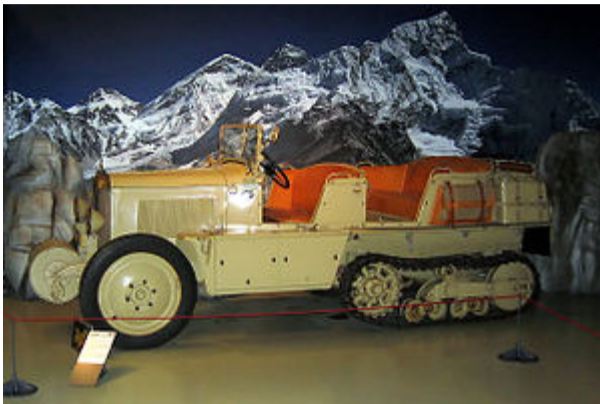

Fig. 8: Citroen Half-track from the 1930's
The turning axle should probably use wheels, making this a WHEELED ROBOT (5). However, for the power axle you can use either wheels or TANK TREADS (7). If you use TANK TREADS (7), then this kind of mixed arrangement is called a half-track, such as this French example from the 1930's (Fig. 8).